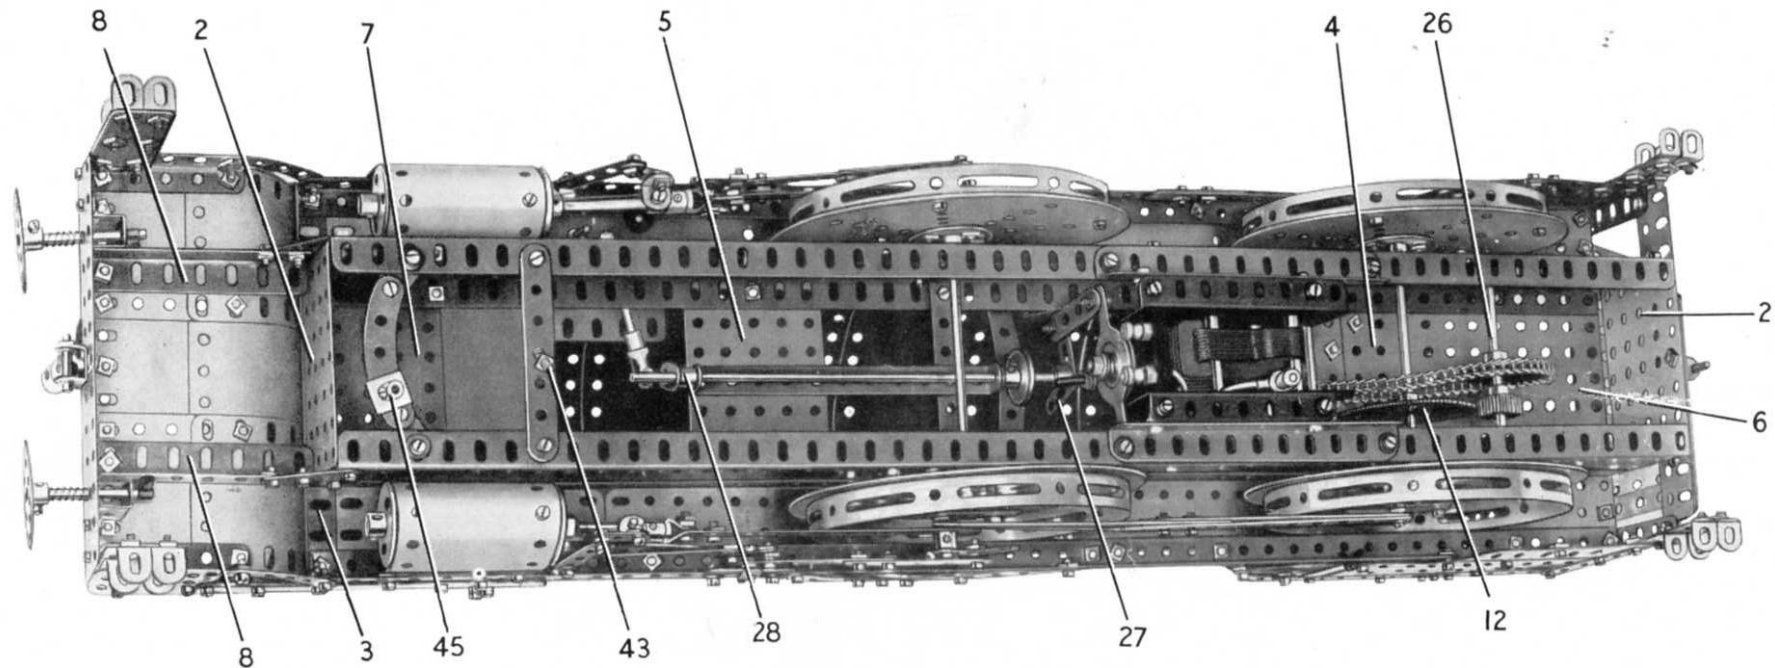
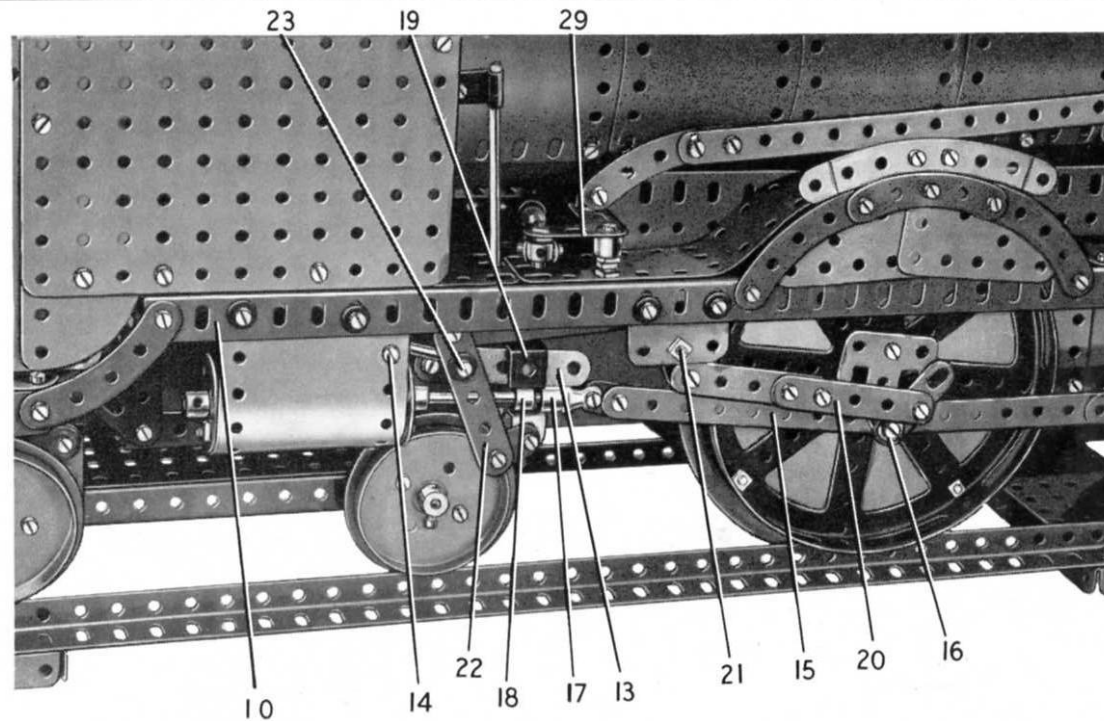
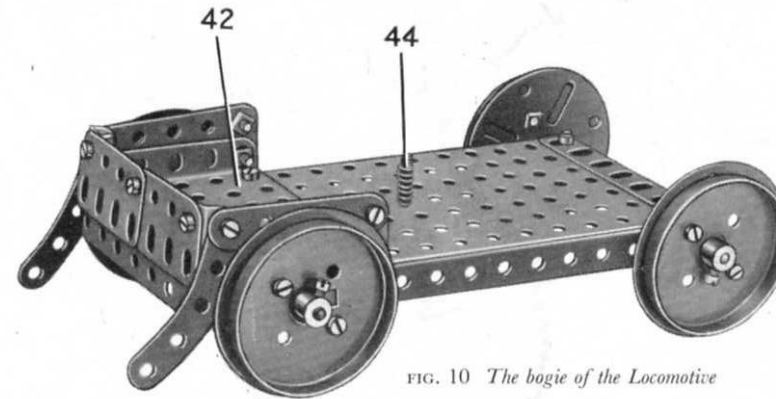

FIG. 2. Underneath view of the Locomotive showing details of the main frame and the driving arrangement
FIG. 4 A close-up picture of the valve motion and cylinder assembly
FIG. 10 The bogie of the Locomotive
### Building the Model: The Main Frame and Running Plates (Figs. 2, 3 and 4)
The side-members are joined together at each end by  $3\frac{1}{2}$ "  $\times$   $2\frac{1}{2}$ " Flanged Plates (2) (Fig. 2), the front one of which carries a built-up girder (3) made
The running plate on each side is made by bolting a  $24\frac{1}{2}$ " Angle Girder (10) (Fig. 4) to the girder (3) and to  $2\frac{1}{2}$ " Flat Girders fixed to the Flat Plate (6). Two  $2\frac{1}{2}$ "  $\times$   $1\frac{1}{2}$ " Flexible Plates and three  $5\frac{1}{2}$ "  $\times$   $1\frac{1}{2}$ " Flexible Plates are attached as shown to the Girder (10), and are curved to form the wheel splashers. The sides of the splashers over the leading driving wheels are each made from two  $2\frac{1}{2}$ "  $\times$   $1\frac{1}{2}$ " Triangular Flexible Plates and three  $2\frac{1}{2}$ " Curved Strips. The nameplate is represented by a 4" Stepped Curved Strip bolted to a 1" Triangular
from a  $5\frac{1}{2}$ " and a 2" Angle Girder overlapped two holes. Two further  $3\frac{1}{2}$ "  $\times$   $2\frac{1}{2}$ " Flanged Plates (4) and (5) are fixed across the main frame (Fig. 2), and a  $5\frac{1}{2}$ "  $\times$   $2\frac{1}{2}$ " Flat Plate (6) is bolted across the rear end. A  $5\frac{1}{2}$ "  $\times$   $3\frac{1}{2}$ " Flat Plate fixed to the Flanged Plate (4) and the Flat Plate (6), forms the footplate. A  $3\frac{1}{2}$ "  $\times$   $2\frac{1}{2}$ " Flanged Plate (7) (Fig. 3) is attached to the front end of the main frame by Angle Brackets and a  $3\frac{1}{2}$ "  $\times$   $\frac{1}{2}$ " Double Angle Strip.
At the front the main frame is extended forward by two  $3\frac{1}{2}$ " Angle Girders (8) (Fig. 2), which are fixed to  $1\frac{1}{2}$ " Corner Brackets. The front ends of the Girders (8) are connected by a built-up girder (9) (Fig. 3) made from a  $5\frac{1}{2}$ " Angle
The dropped section of the frame at the front (Fig. 3) is plated by three  $1\frac{1}{8}$ " radius Curved Plates and three  $2\frac{1}{2}$ "  $\times$   $2\frac{1}{2}$ " Flexible Plates bolted between the girders (3) (Fig. 2) and (9) (Fig. 3). The outer  $2\frac{1}{2}$ "  $\times$   $2\frac{1}{2}$ " Flexible Plates are edged by  $2\frac{1}{2}$ " Angle Girders, and these are connected to the Girders (10) (Fig. 4) by  $2\frac{1}{2}$ " Curved Strips. The steps are Angle Brackets fixed to  $2\frac{1}{2}$ " Flat Girders, which are supported by the  $2\frac{1}{2}$ " Angle Girders.
### Driving Wheels and Motion (Figs. 2, 4 and 6)
Each of the main driving wheels consists of a Hub Disc bolted to a 6" Circular Plate, at the centre of which a Bush Wheel is bolted. The wheels are fixed in pairs on 5" Rods supported in the main frame (see Fig. 2), and at each end of each Rod a Double Arm Crank is held by its grub screw. A Flat Trunnion is fixed to each Double Arm Crank by a  $\frac{1}{2}$ " Bolt, which passes also through a hole in the wheel (see Fig. 4). The Flat Trunnions form the crank assemblies. A  $2\frac{1}{2}$ " Gear (12) (Fig. 2), is fixed on the rear 5" Rod.
The Strip (15) is extended by a Fishplate that is *lock-nutted* to an End Bearing (17) (Fig. 4) on a  $3\frac{1}{2}"$  Rod. This Rod slides freely in the Flanged Wheel forming the rear cover of the cylinder, and on it a Collar (18) is fixed. A  $\frac{3}{4}"$  Bolt is then passed through the lugs of a Double Bracket (19) and is screwed into a hole in the Collar, so that the Double Bracket is able to slide freely on the slide bar (13).
#### Arrangement of the Motor and Reduction Gearing (Figs. 2, 4, 5 and 6)
The E20R Electric Motor used to drive the model is attached by Angle Brackets to two  $5\frac{1}{2}$ " Angle Girders bolted underneath the main frame (Fig. 5). A  $\frac{1}{2}$ " Pinion on the Motor shaft drives a 57-tooth Gear on a  $2\frac{1}{2}$ " Rod (24), which is passed through the Motor side-plates. A  $\frac{1}{2}$ " Pinion on Rod (24) is meshed with another 57-tooth Gear on a 2" Rod (25). This Rod also is supported in the side-plates, above Rod (24), and it carries a  $\frac{3}{4}$ " Sprocket connected by Chain to a 2" Sprocket on a 4" Rod (26). A  $\frac{3}{4}$ " Pinion on Rod (26) engages the  $2\frac{1}{2}$ " Gear (12) (Fig. 2) on the rear driving axle.
A 2" Strip is lock-nutted to one arm of the Motor switch and to a Bell Crank (27) (Fig. 2). The Bell Crank is fixed on an 8" Rod supported in a  $5\frac{1}{2}$ "  $\times$   $\frac{1}{2}$ " Double Angle Strip bolted to the Flanged Plate (5) and to a  $3\frac{1}{2}$ " Strip placed across the main frame. The Rod carries a Crank (28), and a Swivel Bearing is pivoted on a  $\frac{1}{2}$ " Bolt fixed in this Crank by two nuts. The Swivel Bearing is mounted on a 2" Rod fitted at its other end with a second Swivel Bearing, and this is pivotally attached to a Bell Crank (29) (Fig. 6) by a  $\frac{1}{2}$ " Bolt that is fixed by two nuts. The Bell Crank is freely mounted on a  $\frac{3}{4}$ " Bolt, and
is held against the head of the Bolt by two nuts screwed against each other (see Fig. 4). The Bolt is then fixed in the running plate by two nuts.
At its front end the boiler is bolted to the Flanged Plate (7) (Fig. 3) and at the rear is supported by a Double Bent Strip fixed to the Flanged Plate (4) (Fig. 2). The chimney consists of three  $1"$  loose Pulleys and two Wheel Discs held in place by a  $\frac{3}{4}"$  Bolt. A Rubber Ring is fitted to each Pulley.
A 12½" Flat Girder (33) (Fig. 1) on each side is fixed to the flanges of the Flanged Plates (5) and (4) (Fig. 2).
The footplate is extended by a 4½" × 2½" Flat Plate (37), fitted at each end with a 2½" Strip and at the back with a 5½" Strip. The 5½" Strip is connected to the Plate (6) (Fig. 2) by two ½" Bolts, but is spaced from the Plate by a Cord Anchoring Spring on each Bolt.
#### Construction of the Bogie (Fig. 10)
The bogie is made by bolting a  $5\frac{1}{2}$ "  $\times$   $3\frac{1}{2}$ " Flat Plate and a  $3\frac{1}{2}$ "  $\times$   $2\frac{1}{2}$ " Flanged Plate (42) (Fig. 10) to a  $7\frac{1}{2}$ " Angle Girder on each side. A  $3\frac{1}{2}$ " Angle Girder is bolted to one end and a  $3\frac{1}{2}$ "  $\times$   $\frac{1}{2}$ " Double Angle Strip is fixed to the other end. A  $2\frac{1}{2}$ "  $\times$   $1\frac{1}{2}$ " Flexible Plate is attached to each flange of the Plate (42) and is edged by a  $2\frac{1}{2}$ " Strip and fitted with a  $2\frac{1}{2}$ " Curved Strip arranged as shown. At the front two 2" Flat Girders are bolted together and are attached to the Flexible Plate by Angle Brackets. The bogie wheels are Wheel Flanges and Face Plates bolted together, and they are fixed on 5" Rods. Each of the Rods is held in place by two Collars.
The bogie is *lock-nutted* on a  $1\frac{1}{8}$ " Bolt (43) (Fig. 2), which passes through a  $3\frac{1}{2}$ " Strip bolted across the main frame. A  $\frac{3}{4}$ " Bolt (44) (Fig. 10) is passed through the bogie and on it is placed a Compression Spring. The Bolt is then fixed in a Slide Piece (45) (Fig. 2), which is carried on a  $2\frac{1}{2}$ " Curved Strip attached to the main frame by Fishplates.